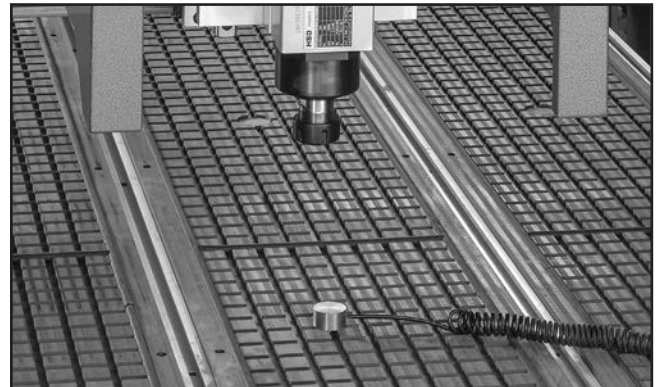

Figure 61. Spindle over tool setter.
3. Manually move X- and Y-axes so cutter is directly above tool setter (see **Figure 61**).